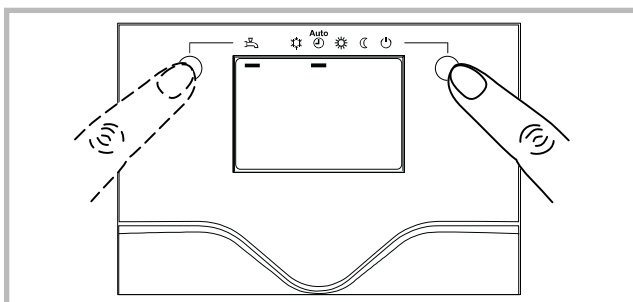

Figure 5 - Selecting the heating mode (AUTO) and selecting the DHW operating mode (domestic hot water)
- Select the "AUTO" heating mode (Fig. 5).
- Select the DHW mode (Fig. 5) if the installation is fitted with a DHW tank with electrical back-up heating.